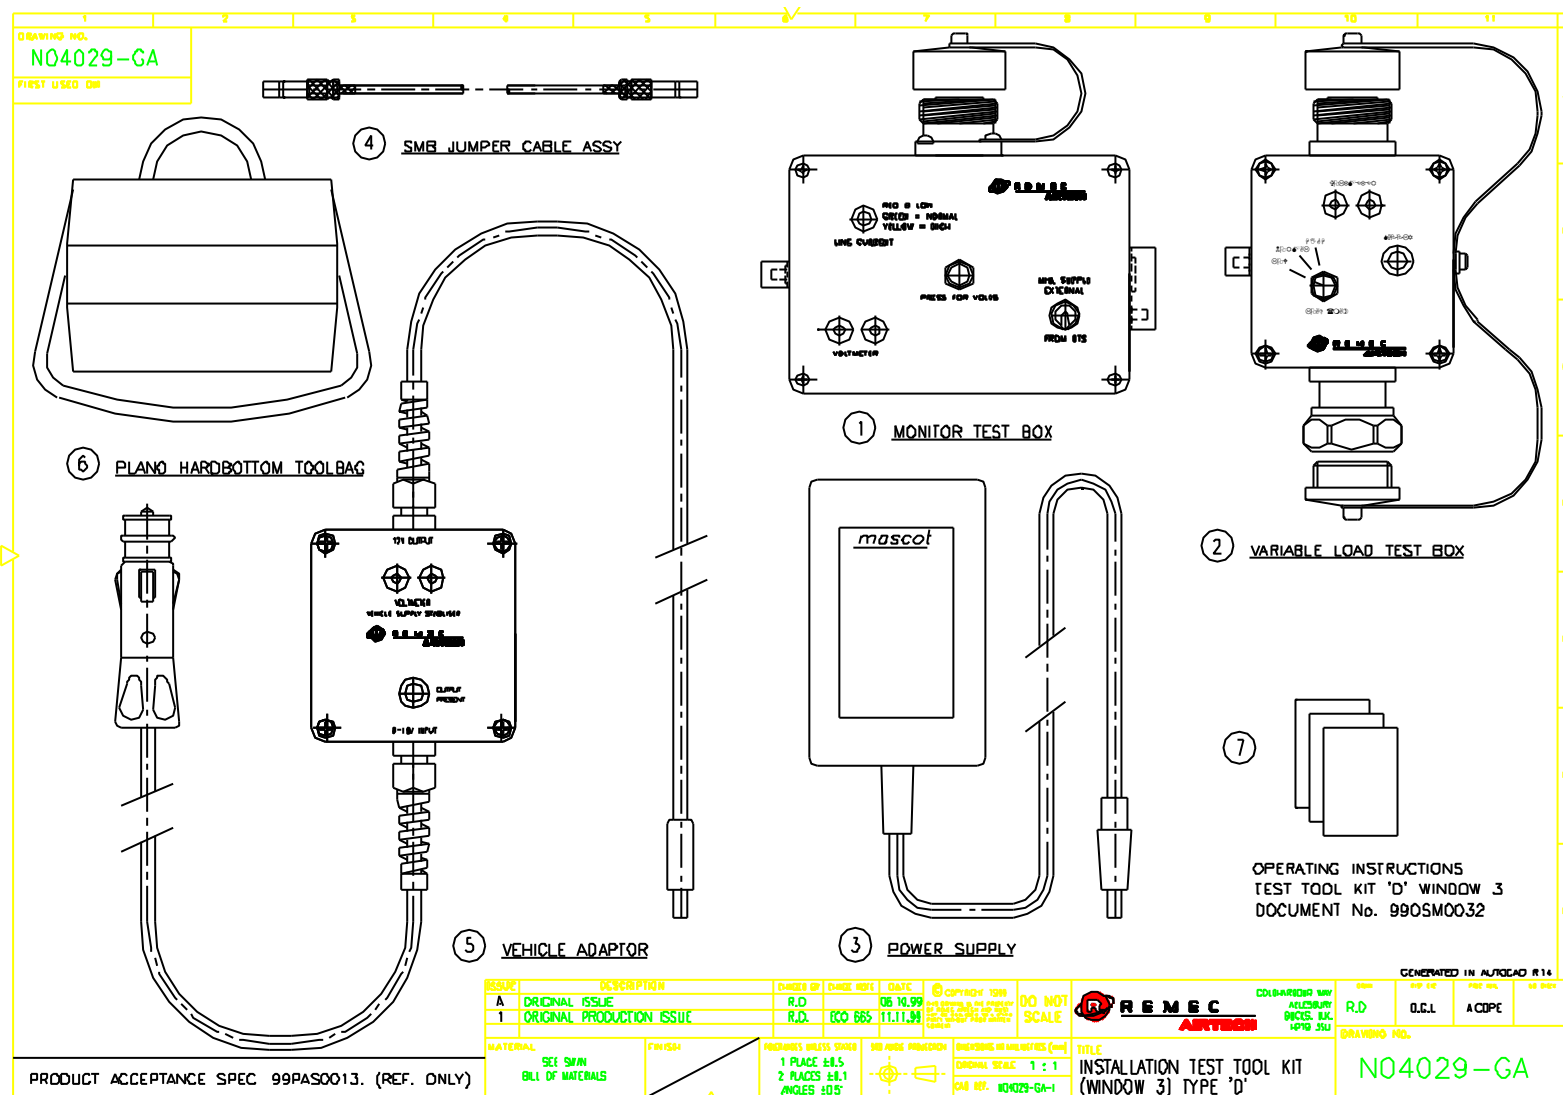

Figure 17 DC Circuit Test Kit 'D'
Test Kit 'D' comprises of four modules (shown in Figure 17 - Product Code N0402901):
- External AC to 12 V DC power supply (Mascot – included in DC Circuit Test Kit 'D' Figure 17)